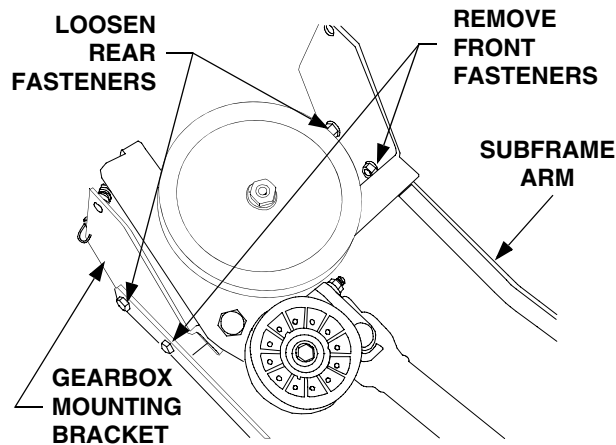

Figure 15
2. **Units with 15" front tires ONLY.** Remove the front hex flange lock nuts and cap screws securing the gearbox mounting bracket to the subframe arms. Loosen the rear fasteners. See Figure 15
8. **Units with 15" front tires ONLY.** Remove the front hex flange lock nuts and cap screws securing the gearbox mounting bracket to the subframe arms. Loosen the rear fasteners (Refer to Figure 15).